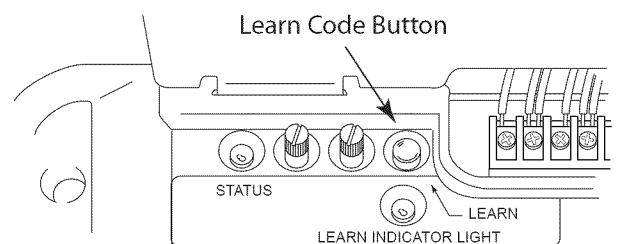

Figure 38 Learn Code Button and Indicator Light
- Locate Learn Button and Learn Indicator Light near Terminal Block on Power Head (**Figure 38**).